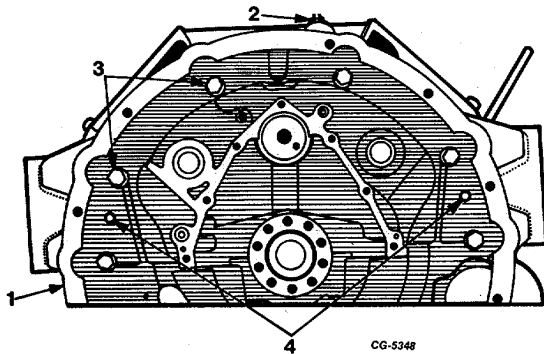

Fig. 55 Flywheel Housing Removal
60. Remove bolts from flywheel housing and remove flywheel housing, Figure 55.
61. Remove oil pressure sending unit from rear of engine, Figure 55.